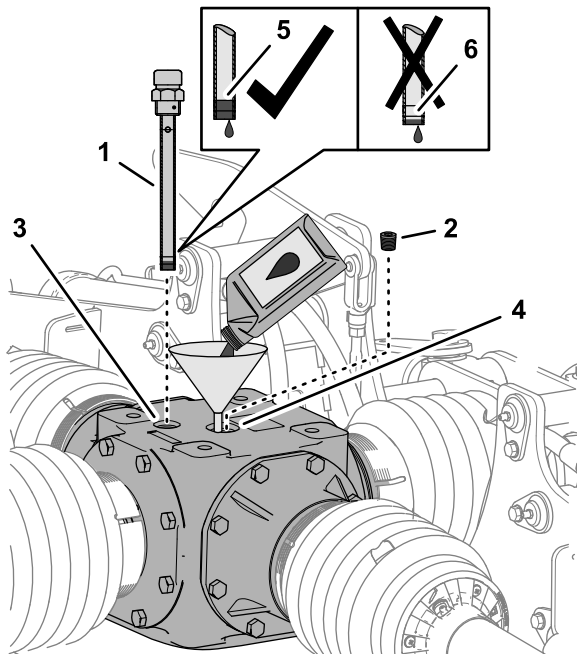

Figure 61
1. Remove the dipstick from the dipstick port at the top of the center gearbox and wipe clean the dipstick (Figure 61).
2. Remove the fill plug from the fill port at the top of the gearbox (Figure 61).
3. Add 2.48 L (84 fl oz) of the specified gear lubricant to the gearbox through the fill port (Figure 61).
4. Thread the dipstick into the port, remove the dipstick, and check that the lubricant level (Figure 61).
6. Thread the dipstick into the fill port and tighten the dipstick (Figure 61).
7. Assemble the fill plug into the fill port and tighten the plug (Figure 61).